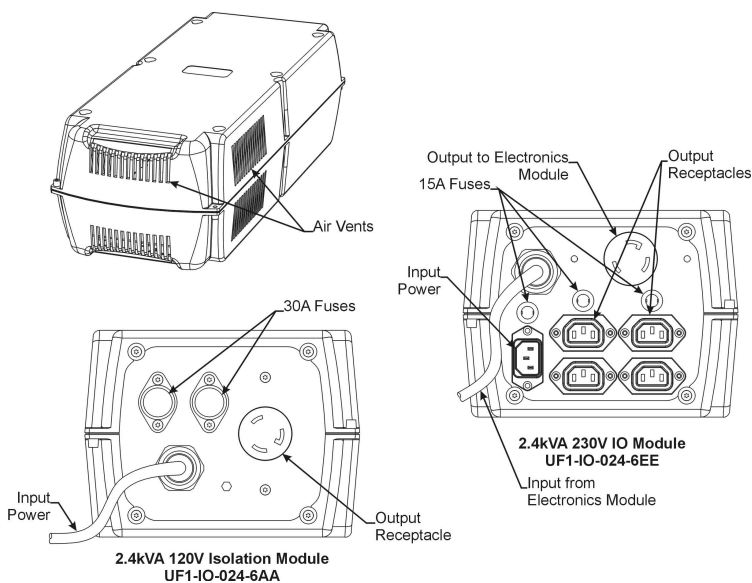

Figure 1
1. The power cord from the electronics module must be plugged into the output receptacle on the back of the option module (see figure 1).
2. The input power cord from the option module must be plugged into a power source (see figure 1).
1. Plug the output power cord from the transformer module into one of the output receptacles on the back of the electronics module (in the case of the 2.4kVA model the cord can only be plugged into the 20A outlet, see figure 1).
2. Next, plug the power cord from the electronics module into the output receptacle on the back of the transformer module (see figure 1).
3. The input power cord from the transformer module must be plugged into a power source (see figure 1).